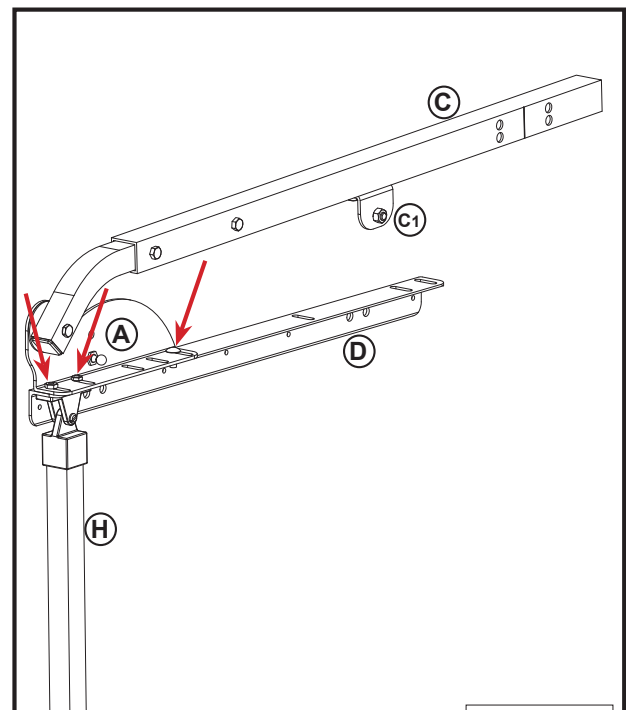

Figure 1.8
1. Loosen the (3) screws that hold the Base Bracket (A) to Auxiliary Bracket (D) (Figure 1.8). Do this to both Left and Right Side Assembly.